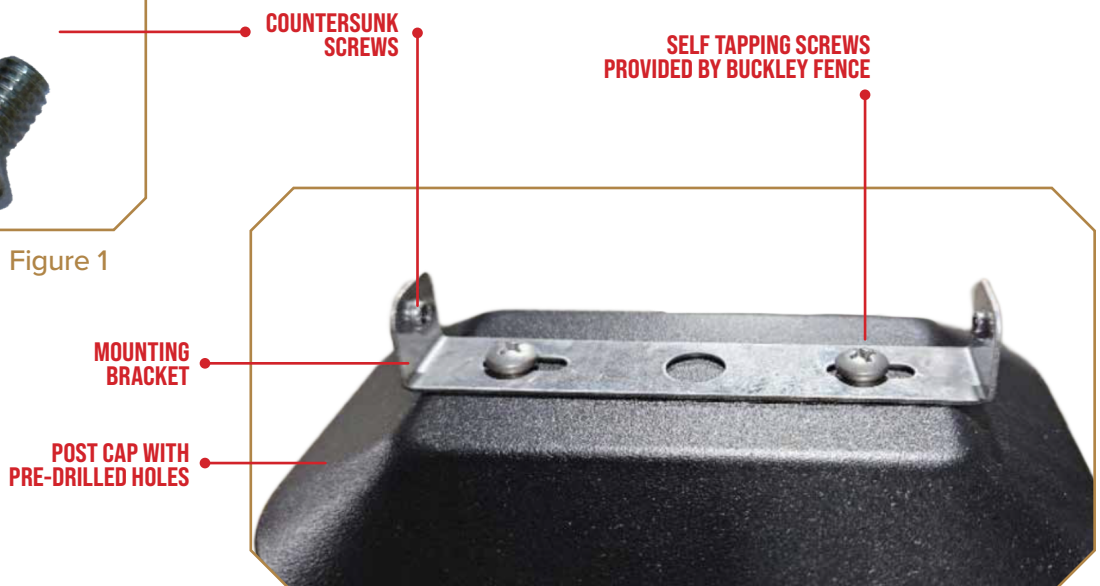

Figure 2
3. Place the self tapping screws provided by Buckley Fence through the slots on the mounting bracket and into the pre-drilled holes on the mounting cap (Figure 2).